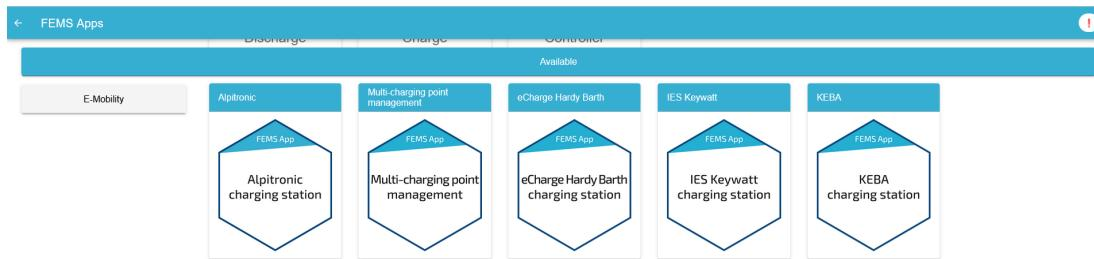

Figure 20. App installation — Variant 2: Step 1
- Figure 20. App installation — Variant 2: Step 1